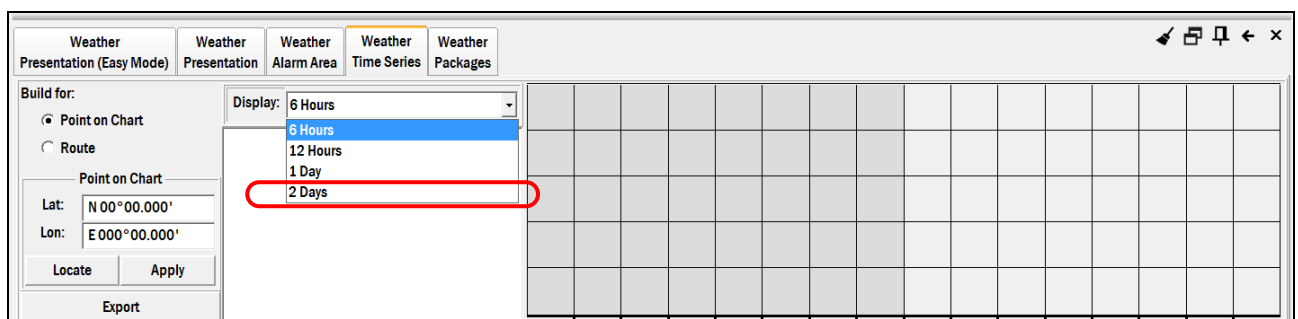

Figure 133 Weather → Weather Time Series tab, time series for a point
- Open the **Weather → Weather Time Series** tab and select the **Build for Point on Chart** option, Figure 133.
3. Select a time range of the time series on the **Display** drop-down list. The range has been extended up to 2 days, Figure 13345.